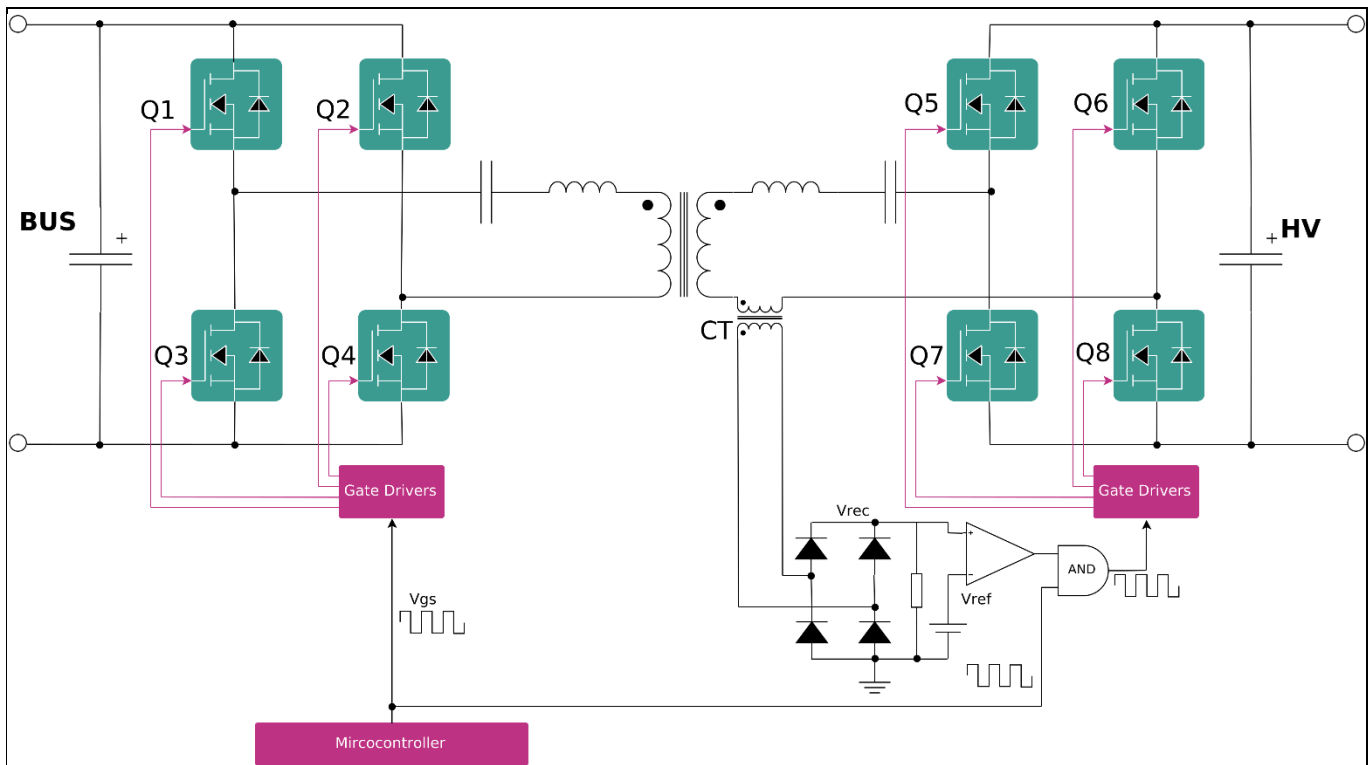

Figure 14 Synchronous rectification circuit
low-cost method to achieve synchronous rectification control based on current transformers (CT) can be used (Figure 14):